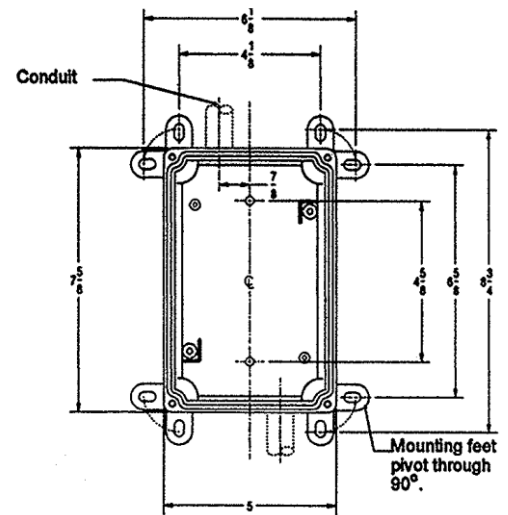

Fig. M-1
3. Mounting feet will accept up to ¼ inch (6mm) screws (not provided). Mounting pattern is shown in Fig. M-1.
4. Remove the four (4) cover mounting screws.
B. DUAL CONDUIT ENTRY AND BACK FEED: See Figs. M-1 and M-2.